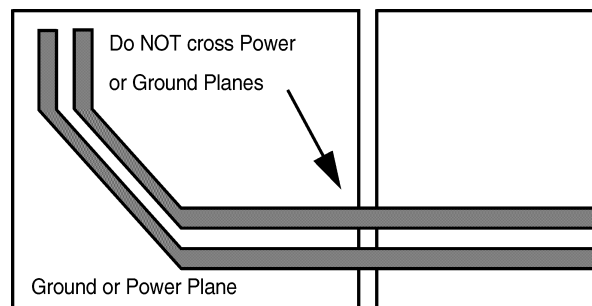

Figure 4. Differential Signal Pair-Plane Crossing
- Signal traces should not be run such that they cross a plane split. See Figure 4. A signal crossing a plane split may cause unpredictable return path currents and would likely impact signal quality as well, potentially creating EMI problems.